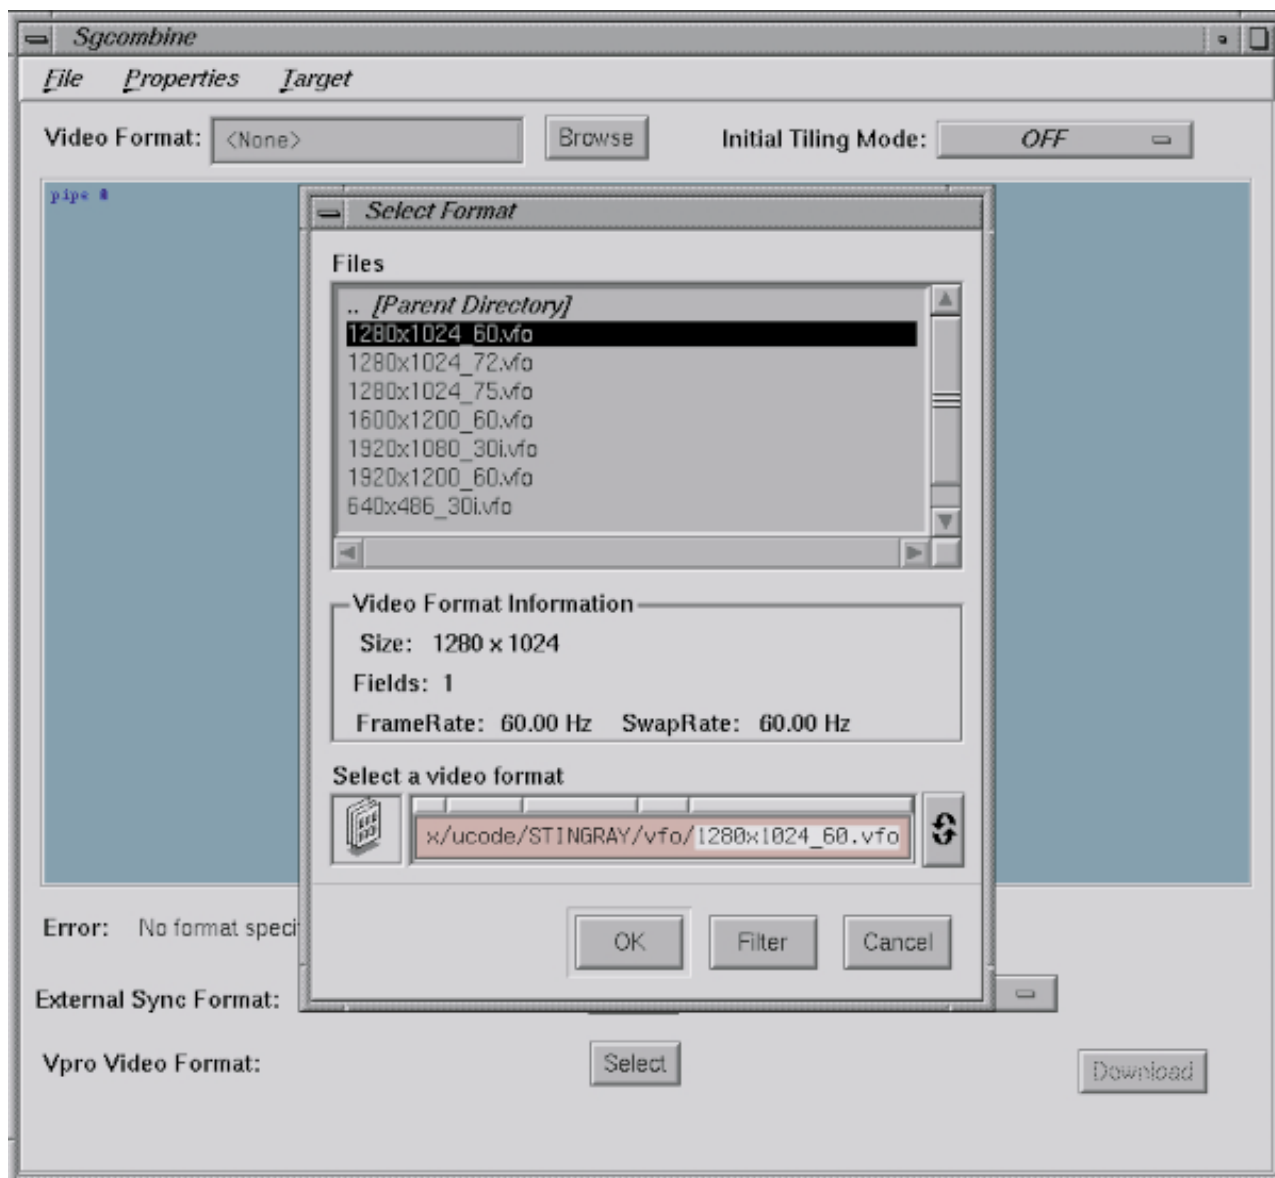

Figure 3-2 Select Format Window
1. Select **Browse** from the main window to see the **Select Format** window shown in Figure 3-2. Select a video format for the compositor by following these steps: